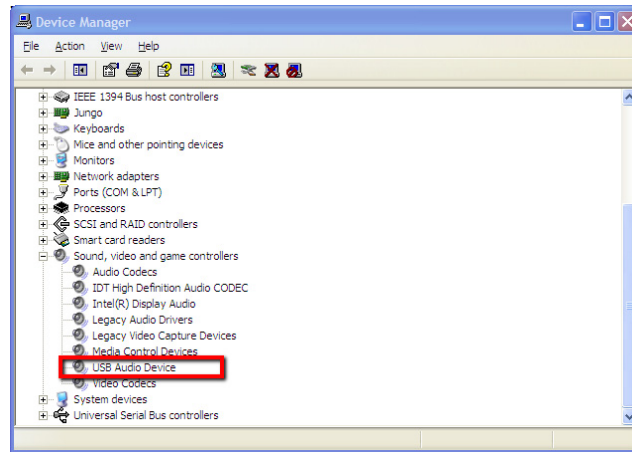

Figure 9. Device manager dialog
1. Plug USB audio device into the PC. As soon as you turn on the device, it is recognized by the host and installed automatically. Callout shown in Figure 9 should appear on the right bottom corner of your screen.